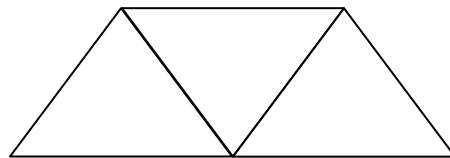

Fig.1
- 9 a) Explain FEM? (2)
- b) List the various steps in FEM. (3)
- c) What is discretisation? Sketch two types elements each for one-dimensional and two-dimensional domains. (5)
- 10 a) Derive the shape function for one-dimensional linear element, plot its variation along the element. (4)
- b) The nodal values of displacements for a one-dimensional element are 3 mm and 7 mm respectively. Determine the displacements at  $1/3^{\text{rd}}$  lengths of the element considering it as linear element. (2)
- c) In the above problem, if the displacement at midpoint of the element is given as 5 mm, determine the displacement at  $2/3^{\text{rd}}$  length of the element considering it as quadratic element. (4)
- 11 a) Write the standard form of the discretised equation in FEM formulation, naming each term it. (3)
- b) Write the integral equation for element stiffness matrix with conventional notations. (2)
- 12 a) Elaborate about node connectivity matrix, what is its use? (4)
- b) Sketch a simple truss with seven members and five joints is given in Fig.1. Divide and number each element and node of the truss, considering each member as one-dimensional linear element. Also prepare the node connectivity matrix for this. (6)
- 8 a) What is blending function? List some properties of the blending function. (6)
b) Name and describe any two methods for representing solid models. (4)
- 9 a) What is FEM? Describe briefly the main steps in FEM. (8)
- b) What is use of shape function in FEM? (2)
- 10 What are the different types of elements in used in FEM for 1D, 2D and 3D problems? Sketch two types of element s for each case. (10)
- 11 a) Derive the shape for one dimensional linear element and plot it distribution along the element. Also obtain the expression for the gradient of shape function and plot it. (6)
- b) The axial displacements at the end points for one dimensional element subjected to axial force are 2 mm, 5 mm respectively. Determine the axial displacement of a point at distances of  $1/3^{\text{rd}}$  and  $2/3^{\text{rd}}$  of its length from one end. (4)
- 12 Derive the shape functions for linear triangular element, and also obtain the expression for the gradient of shape function. (10)
- 13 a) Differentiate between global coordinates, local coordinate and natural coordinates. (3)
- b) Determine the x and y coordinate of point P (x,y) for the triangular element shown in Fig.1. The shape functions  $N_1 = 0.3$  and  $N_3 = 0.2$ .
- 14 a) What are isoparametric elements? (7)
- b) Sketch the linear and quadratic quadrilateral isoparametric elements. (4)
- (6)